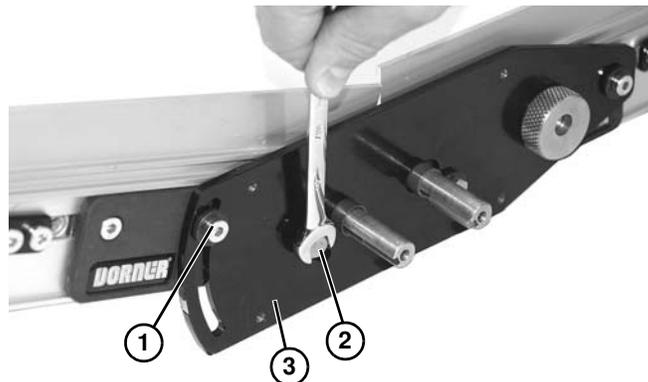

Figure 19
7. Install screw (Figure 19, item 1). Adjust conveyor angle and tighten. Repeat on opposite side.
8. Install washer and screw (Figure 19, item 2) from series drive plate (Figure 19, item 3). Repeat on opposite side.